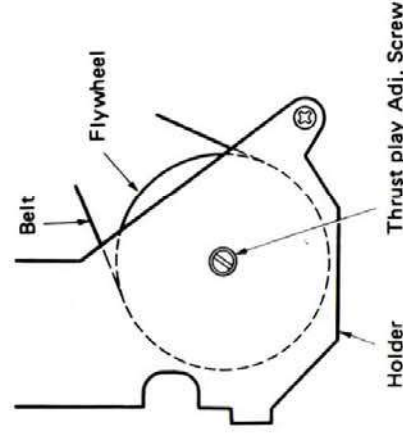

Fig. 18
- 2) Since the pitch of this screw is 0.5mm , it will be displaced by 0.5mm in a single full turn. Refer to Fig. 18.